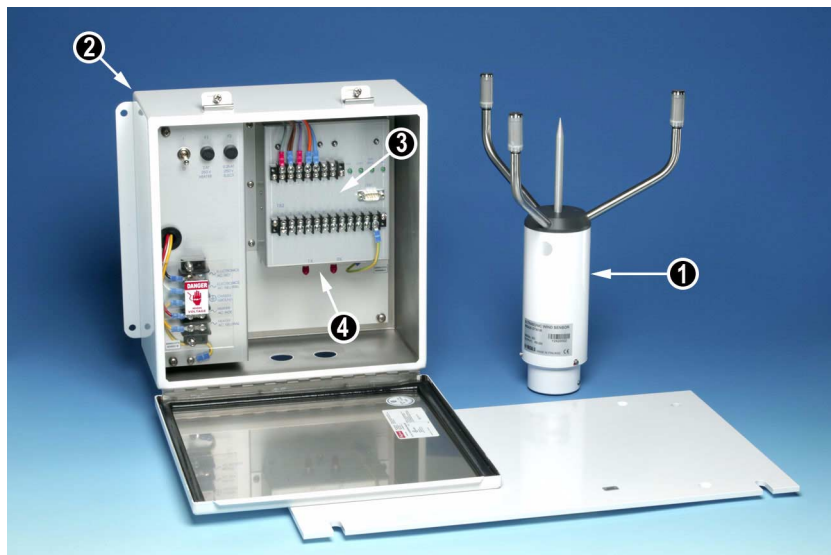
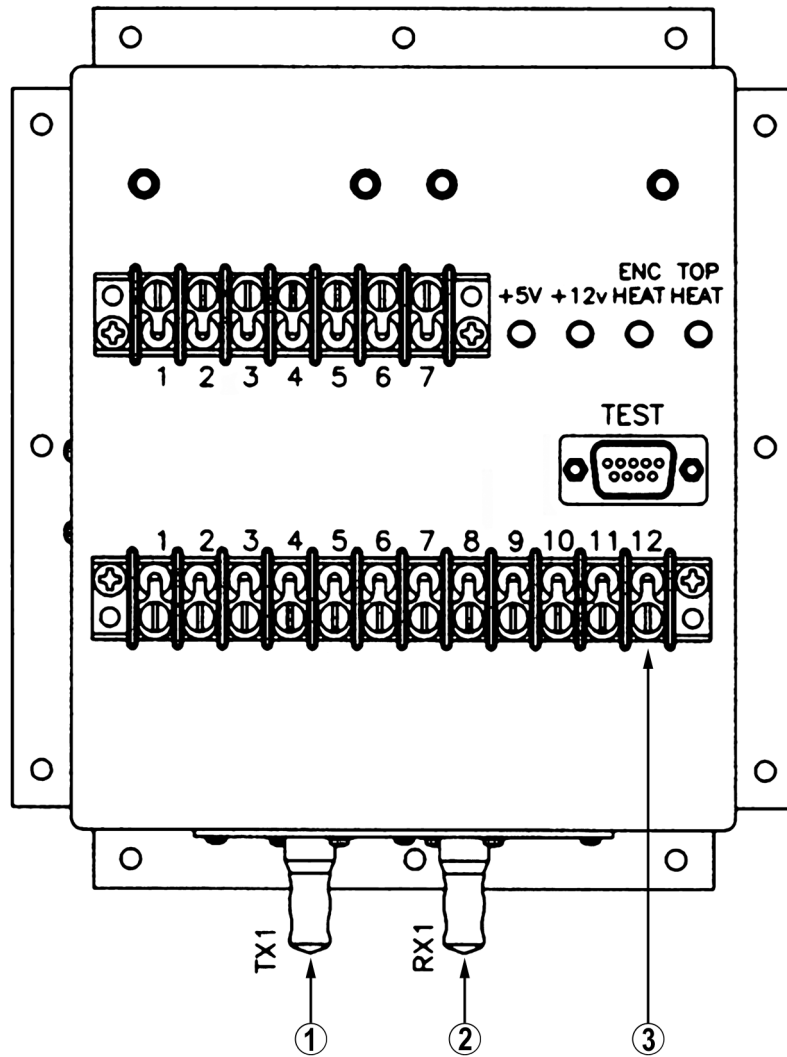
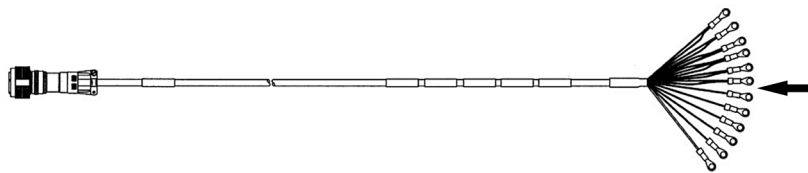
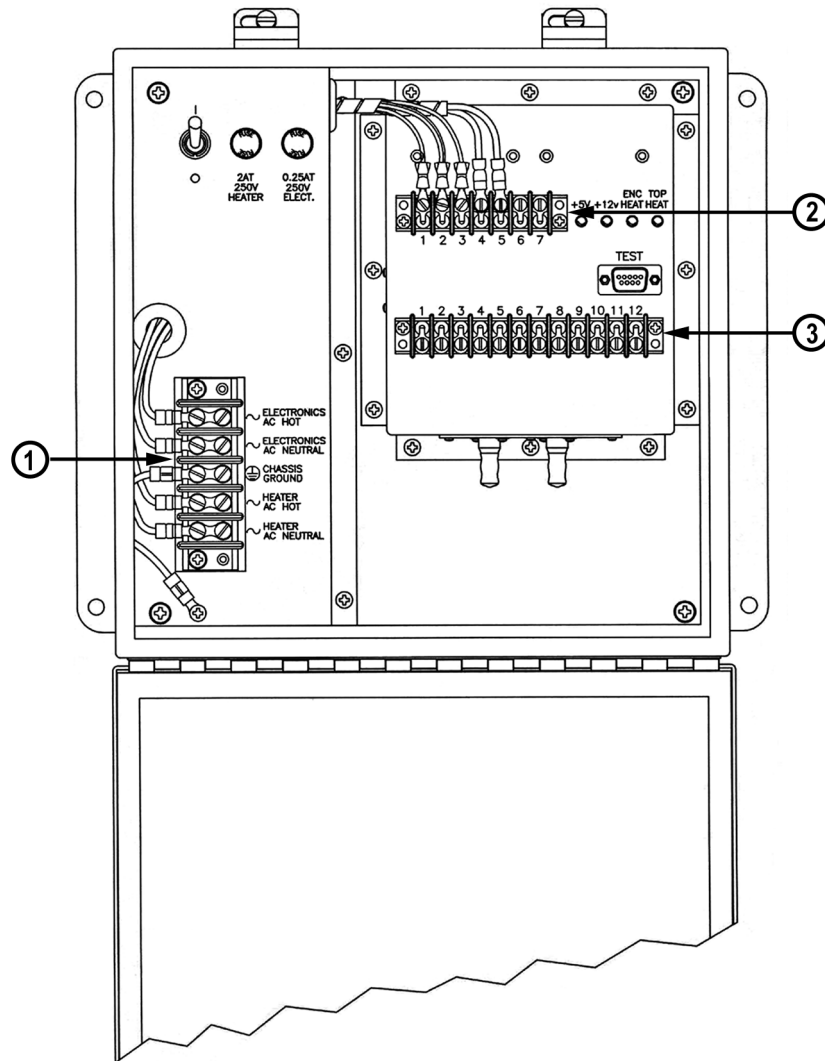

Figure 2 **Components Overview**
Figure 5 Power Supply and FOM Module Assembly
Figure 6 Cable Assembly, Sensor
Figure 11 Power Supply Terminal Blocks
The following numbers refer to Figure 2 on page 17:
- Wind sensor, model WS425 F/G (item 1 in Figure 2 on page 17)
- Power supply, WS425PowerUS or WS425PowerEU (item 2)
- Module assembly, power supply (item 3)
- Fiber optic modem assembly (item 4)
- Cable assembly, sensor WS425 F/G (Figure 6 on page 21)
The following numbers refer to Figure 5 on page 20:
- 3 = 12-position terminal block (TB2, see also Figure 11 on page 30 and Table 2 on page 31)
The sensor interface cable assembly is 11.2 m in length. The 12 ring lugs (indicated by the arrow in Figure 6 on page 21) of the sensor interface cable are each numbered 1-12. Connect them to the correspondingly numbered terminal positions in the power supply assembly terminal block 2; see Figure 5 on page 20, Figure 11 on page 30 and Table 2 on page 31.
The fiber optic cable is connected to the connectors of the fiber optic modem located in the power supply module assembly and at the other end to the connectors of the optional FOM111 fiber optic modem. The FOM111 in turn is connected to the host system personal computer/data logger via an RS-232 cable. Note that the RS-232 cable between the PC/data logger and the fiber optic modem is different than the one used between the PC and the TEST connector in the power supply module (see Figure 5 on page 20).
2. Connect the AC power wires to the AC power terminal block as shown in Figure 11 on page 30, starting with the green wire. Double-check that each wire is connected as shown in Figure 11 on page 30.
3. Connect the 12 ring lugs of the sensor interface cable to the 12-position terminal block (see Figure 11 on page 30). Follow the numbering scheme next to the terminal block and on the labels of the individual wires.
The following numbers refer to Figure 11 on page 30: